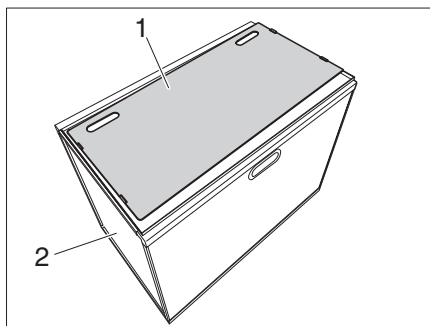
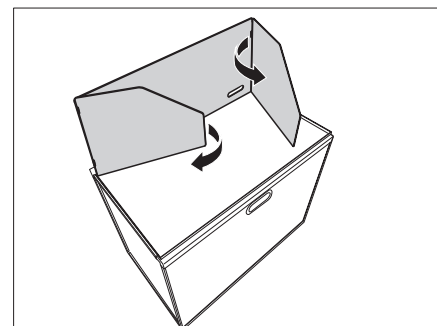

Fig. 19 Position the wind guard
Fig. 20 Assemble the back and side parts
- Remove the wind guard (Fig. 19,1) from the Campbox and position on the pull-out with storage space (Fig. 19,2).
- Setup the wind guard as illustrated in Fig. 19 and Fig. 20.